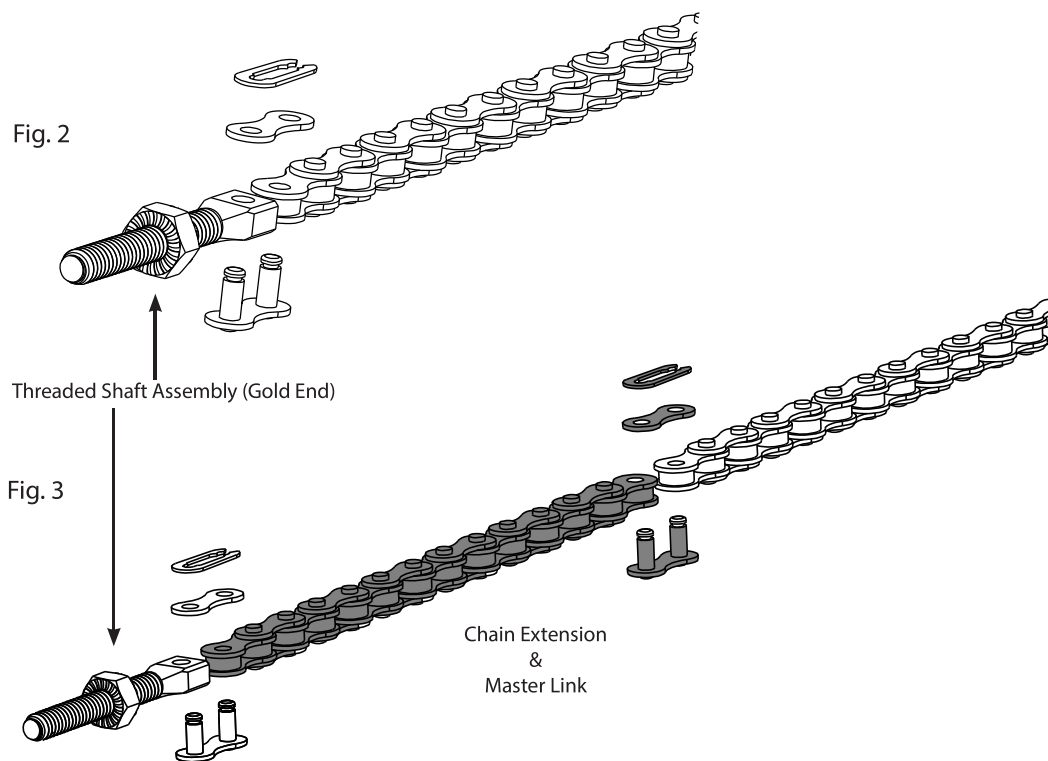

Fig. 4
- 8) Continue with the installation poster at step 1g. Fig.4.